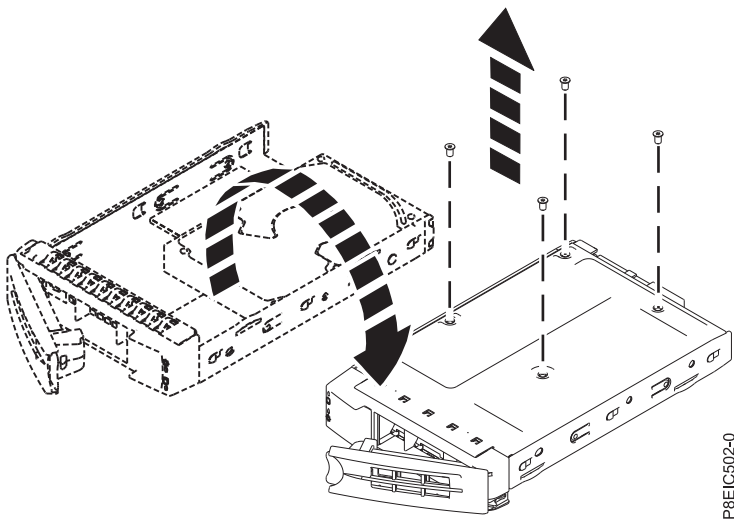

Figure 55. Removing the 2.5 inch drive from the tray
- For a 2.5 inch drive, turn the tray over. Unfasten the drive from the bottom of the tray by removing four screws, as shown in Figure 55.